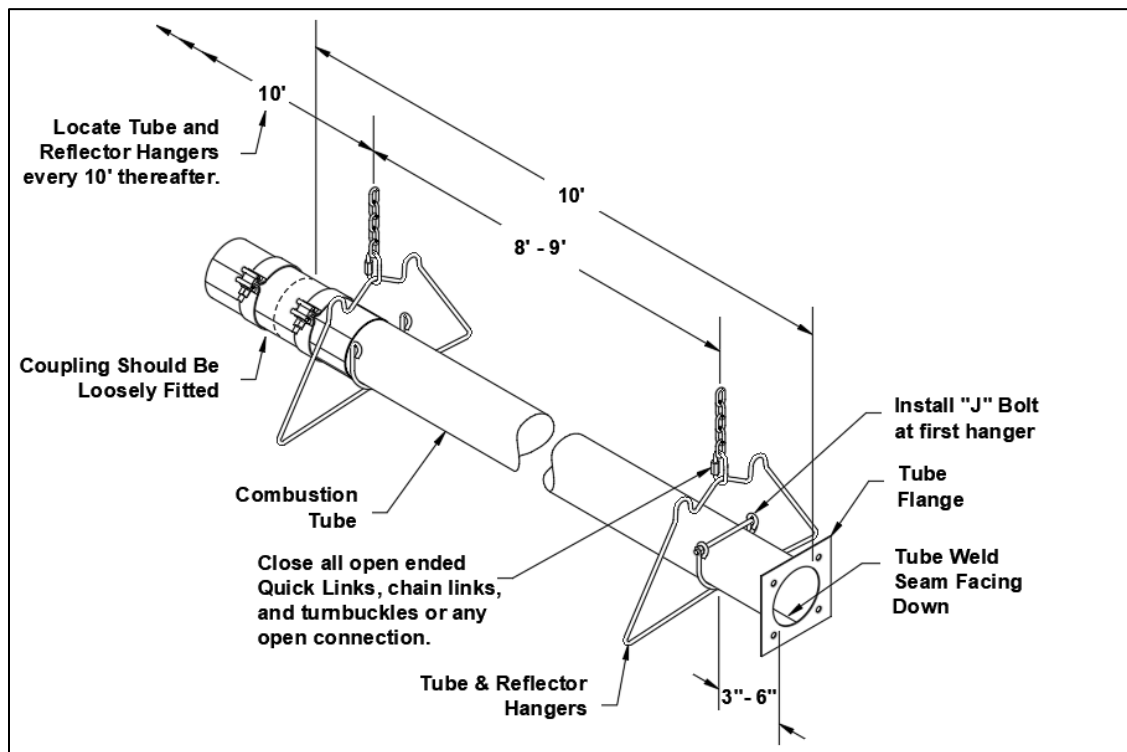

Figure 6: Installation of First Section of Flanged Tube
- Place the first (flanged, aluminized) tube in the first two hangers (Figure 6). Be sure the flange is toward the intended burner location. The other end of the tube should have the first coupling already loosely fitted.
- Always use all the hangers supplied. As a rule the combustion tube (first tube) utilizes 2 hangers and thereafter 1 hanger per 10' section. It is required that the first hanging point be 3" to 6" from the burner mounting flange, and tube weld seam must face down, refer to Figure 6 for more details.